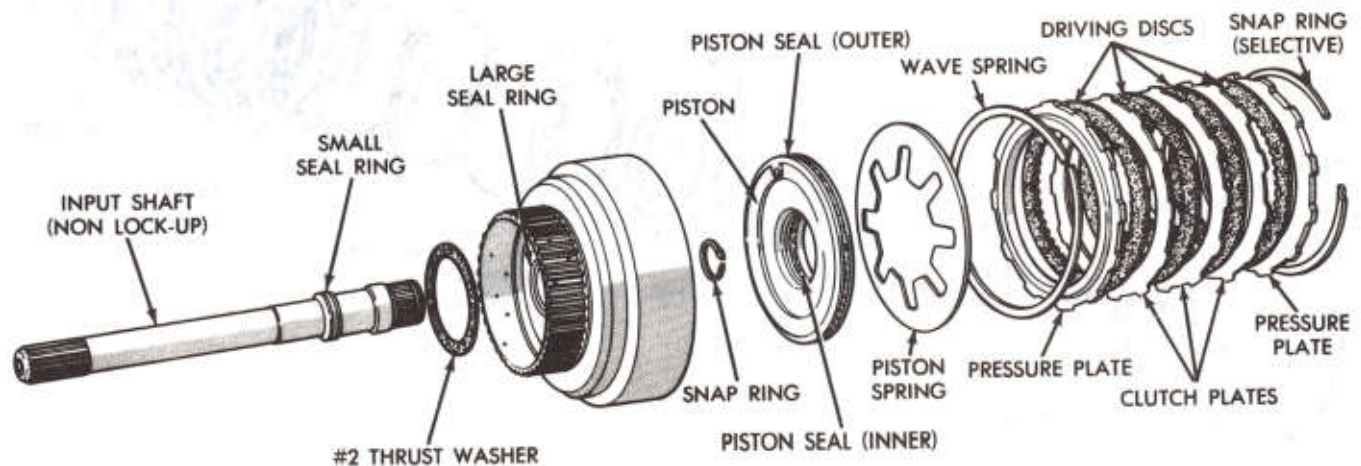

Fig. 27—Rear Clutch (A-904T and A-999 Nonlockup)
Figure 27 shows a disassembled view of the rear clutch assembly.
Inspect teflon and/or cast iron seal rings on input shaft for wear (Fig. 27). If required, replacement rings will be cast iron hooked-joint type. Do not remove rings unless conditions warrant. Inspect rear clutch to front clutch #2 thrust washer for wear. Washer thickness should be .061 to .063 inch, replace if necessary.
(1) If removed, press input shaft into piston retainer and install snap ring.
(2) Lubricate and install inner and outer seals on clutch piston. Make sure seal lips face toward input shaft, and seals are properly seated in piston grooves (Fig. 27).
(3) Place piston assembly in retainer and, with a twisting motion, seat piston in bottom of retainer.
(4) Place clutch piston spring on top of piston in